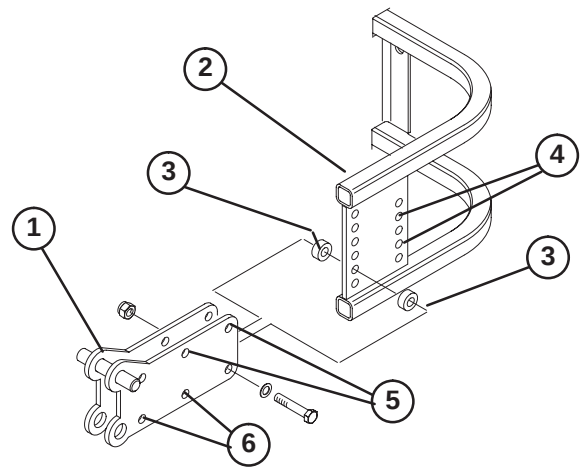

Figure 8
- Slide a hitch onto each side of blower frame. Use forward set of hitch mounting holes when mounting blower on a Sand Pro 2020 or Sand Pro 3020 and rear set of holes for a Sand Pro 5000/5020. Secure hitch to blower frame with (4) 3/8–16 x 2” lg. capscREWS, .40 I.D. x .69 O.D. flatwashers and (8) spacers. Spacers to be positioned between frame and hitch on each side (Fig. 8).